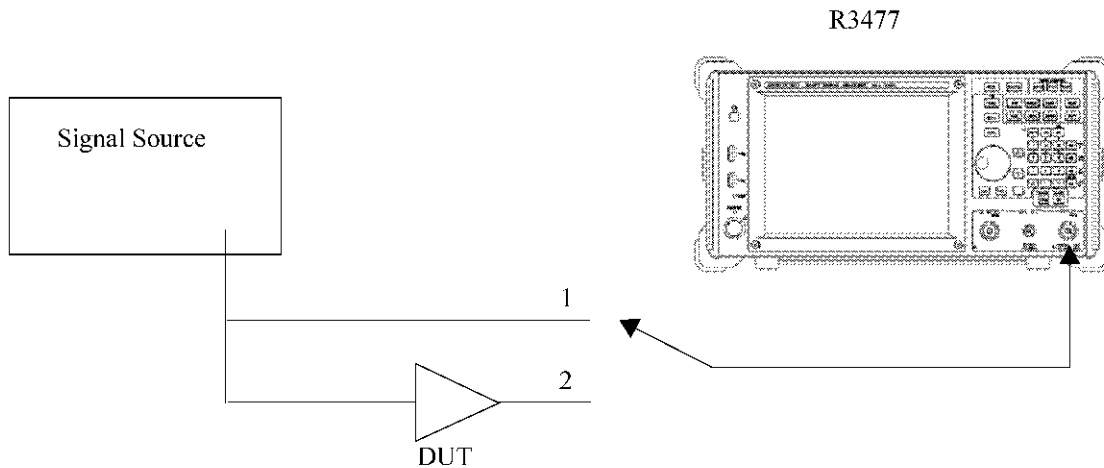

Figure 4-7 Connection Diagram Using the Equalizing Filter
1. Set the signal path shown in Figure 4-7 to 1 and perform the measurement according to the procedure described in Section 4.1.
6. Switch the signal path shown in Figure 4-7 to 2 and press the **SINGLE** key on the front panel.